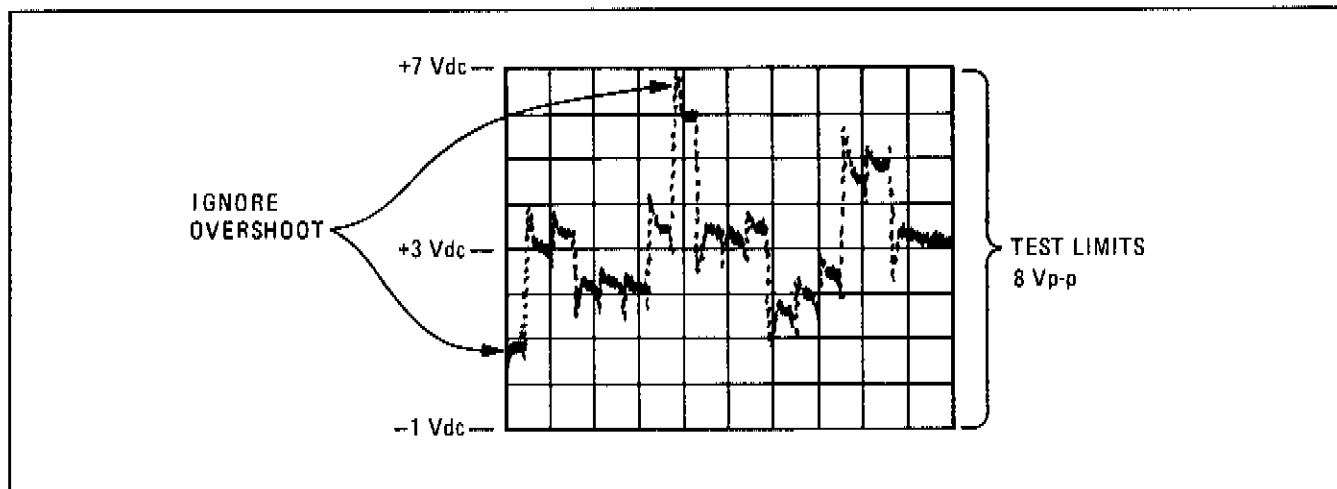

Figure 5-8. FN Loop Error Voltage (Vertical Sensitivity = 1V)
The following adjustments may not result in an oscilloscope display exactly as shown in Figure 5-8. The intended result, however, is to reduce the peak-to-peak ac amplitude to the lowest possible amount and to center the signal around the indicated dc level.
3. Adjust the PRETUNE OFFSET, A5A5R53, so that the peak-to-peak FN Loop error voltage varies symmetrically around a +3 Vdc offset. Refer to Figure 5-8.